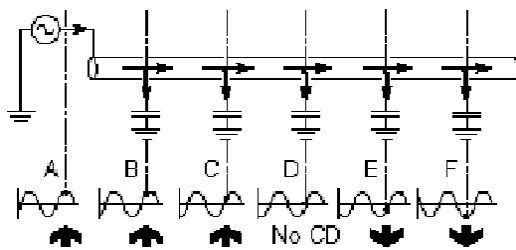

Figure 9.2: CD reset
Figure 9.2 illustrates a buried line with significant capacitance to ground. It illustrates the gradual phase-shift that occurs along the line. The diagram shows a reference point on each waveform. At first, the reference point occurs right on the Peak of a positive half cycle (A). It gradually moves towards the zero crossing point (D) and ends up on the Peak of a negative half cycle (F). The direction has shifted from forwards to backwards. At the intermediate point (D) the current flow cannot be determined. At this point the CD arrows on the RD8200 locator will flash on and off. In the example shown in the illustration, by returning to (C) which is the last point at which a CD reading was achieved, and performing a CD reset, the response at (C) will be equivalent to that of (A).